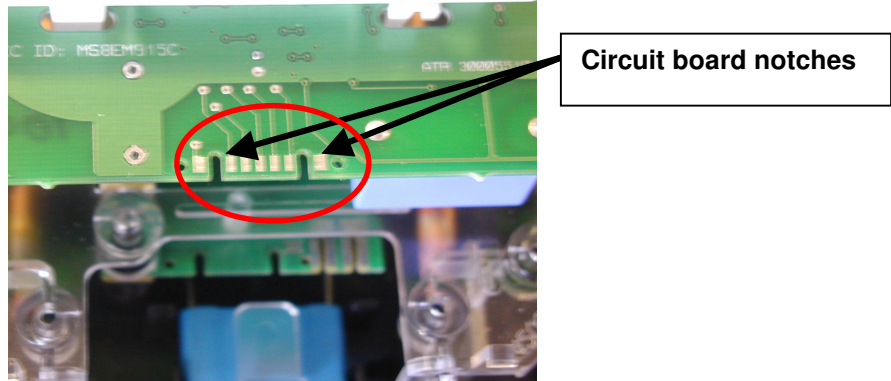

Figure 7: TransPondIT circuit board notched
9. Replace the board-to-board connector by aligning the top of the connector with the notches in the circuit board (see Figure 7) and pressing gently at the bottom of the connector to mate with the metrology board (see Figure 8). The board-to-board connector can be used either way up. Then, gently press the top of the connector to mate it to the TransPondIT (see Figure 9). The connector is seated correctly when you hear it snap into place